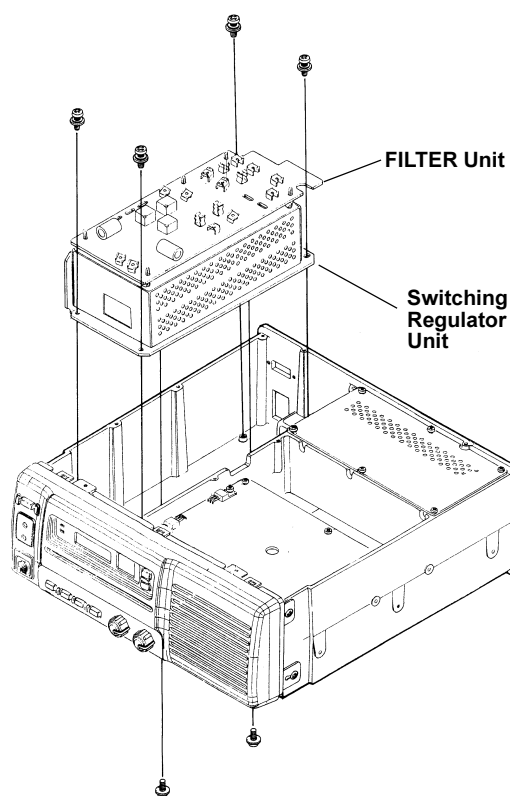

Figure 2
- ❑ Disconnect all wires and connectors from the FILTER Unit, then remove the six screws affixing the Switching Regulator Unit, and remove it (the Switching Regulator Unit is mounted with the FILTER Unit: Figure 2).